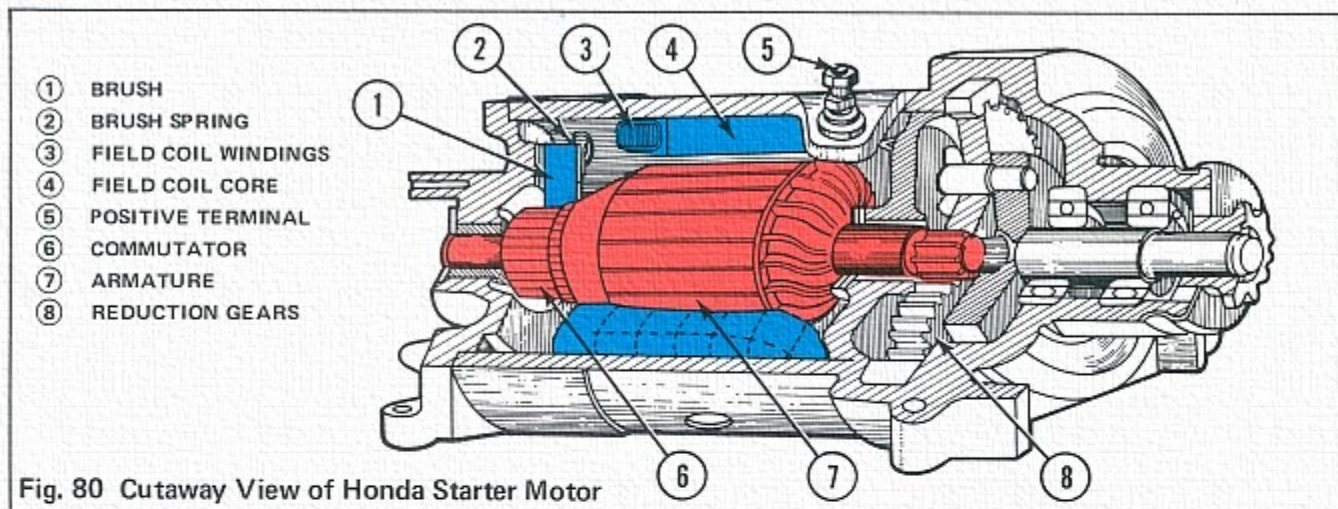
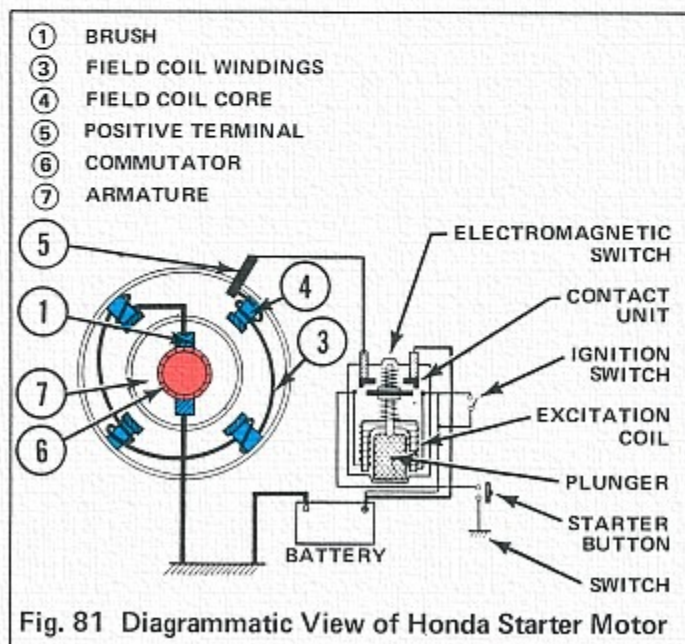

Fig. 80 Cutaway View of Honda Starter Motor
Fig. 81 Diagrammatic View of Honda Starter Motor
A cutaway view of a Honda starter motor is shown in Fig. 80. A diagrammatic view of the same motor is shown in Fig. 81.
The torque of a motor containing only a single armature winding (Fig. 76 - 79) is neither continuous nor very effective. A practical starter motor (Fig. 80) contains a large number of wire coils wound around a laminated iron armature core. At one end of the armature (7), there are a number of copper commutator segments (6), corresponding to the number of armature coils. The commutator segments are insulated from each other by pieces of mica. The armature coils are so spaced that, for any position of the armature, there will be coils near the poles of the field magnets (4). This makes the torque both continuous and strong. Electromagnets (3) (4) are used in the starter motor because they can be made to furnish a stronger field than the permanent magnets shown in Fig. 76 - 79.
The brushes (1) and commutator (6) connect the field coil windings (3) with the armature (7) windings in series (Fig. 81). Any increase in current therefore strengthens the magnetism of both the field and armature. A series D.C. motor produces high starting torque, which is necessary in a starter motor. Relatively thick wire is used to keep resistance low, enabling the motor to draw large amperage.
The armature shaft is connected to reduction gears (8) which multiply the motor's torque, enabling it to crank the engine. Reduction gears may be contained in the engine crankcase or built into the starter motor housing, depending on Honda model. Fig. 80 shows a planetary gear set (8) within the starter motor housing.
Continuity testing can be done with a VOM, ohmmeter, or a battery powered continuity tester of the same sort used to check static ignition timing (see page 37). Test results, indicating continuity or no continuity, should correspond logically with the circuit shown in Fig. 81 (page 49). Other results indicate faulty connections, or a faulty armature or field coils.